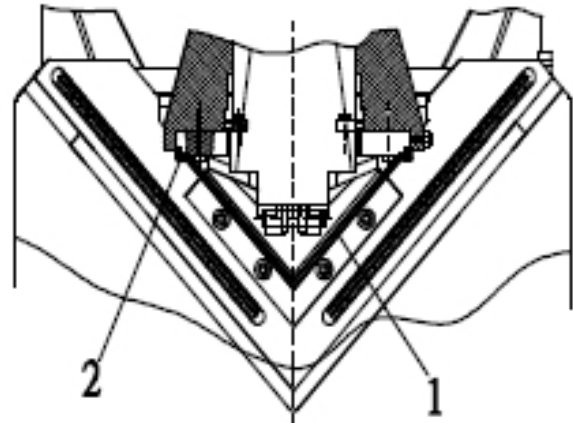

Fig. 11: Remove the safety cover
Step 6: Remove the safety cover 1 by unscrewing the screws (Pos. 2, Fig. 11).